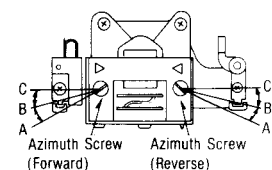

Fig. 7
9. In the forward playback mode, playback the 8kHz signal from the test tape (QZZCFM). Adjust the azimuth screw (Forward) shown in fig. 7 for maximum output L-CH and R-CH levels. When the output levels of L-CH and R-CH are not at maximum at the same point adjust as follows.
10. Turn the azimuth screw (Forward) shown in fig. 7 to find angles A and C (points where peak output levels for left and right channels are obtained). Then, locate angle B between angles A and C, i.e., point where L-CH and R-CH outputs are balanced. (Refer to figs. 7 and 8.)